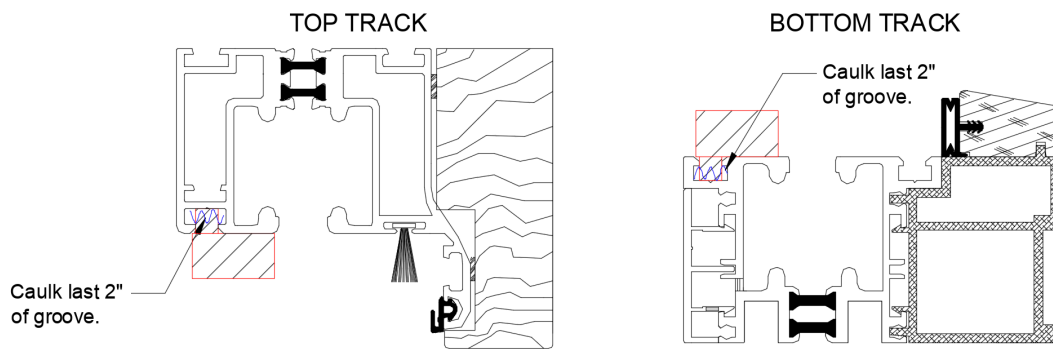

FIG 3.
- Caulk the last 2" of the outside groove & 2" from ends of track where jamb will sit to ensure no air infiltration of both top and bottom tracks before inserting jambs, as shown in FIG 3.
- Each jamb has an insert top and bottom to ensure panels are installed plum and square with tracks and are placed to the exterior edge. (Shown in red FIG 3.)